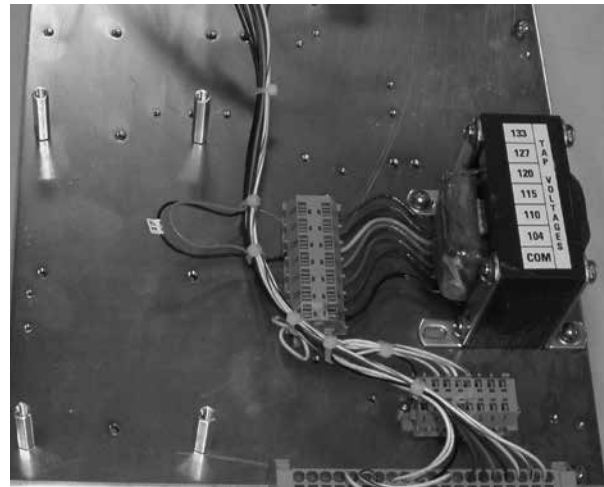

Figure 10. Module mounting location with stand-off studs mounted, control box back panel
2. Locate the four mounting holes on the control back panel. See Figure 10.
3. Determine which length stand-off studs are required to allow clearance off the terminal block at the lower edge of the rear panel. The kit includes 1/2" studs (Item 9) and 1 1/4" studs (item 8).
4. Screw the appropriate threaded stand-off studs into the mounting holes on the control box back panel. See Figure 10.